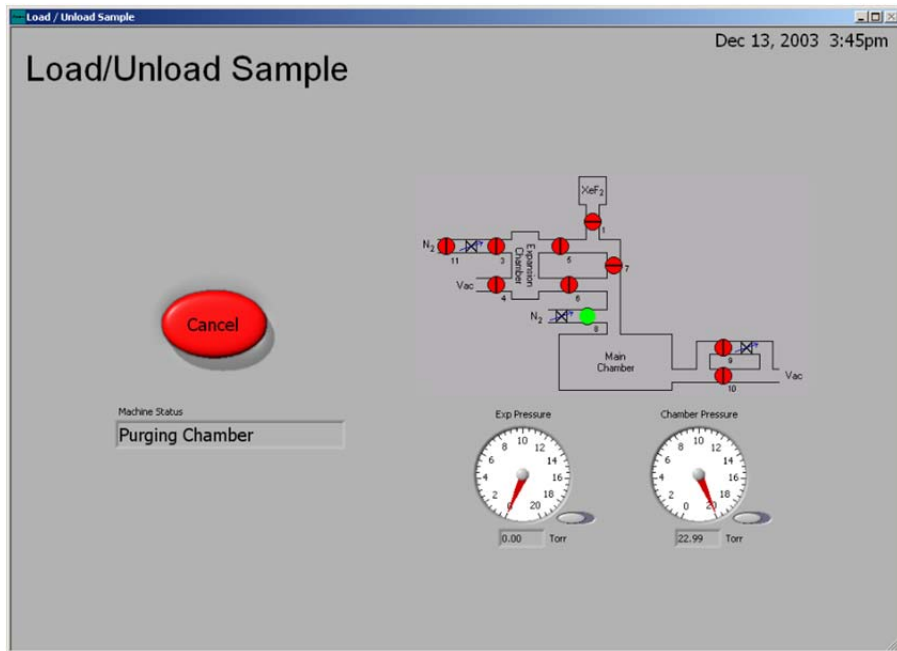

Figure 4: Load/Unload Sample screen.
- 2) After clicking YES, the Load/Unload Sample screen (Figure 4) will show. The system will begin chamber purges and flushing cycles to evacuate the chamber.